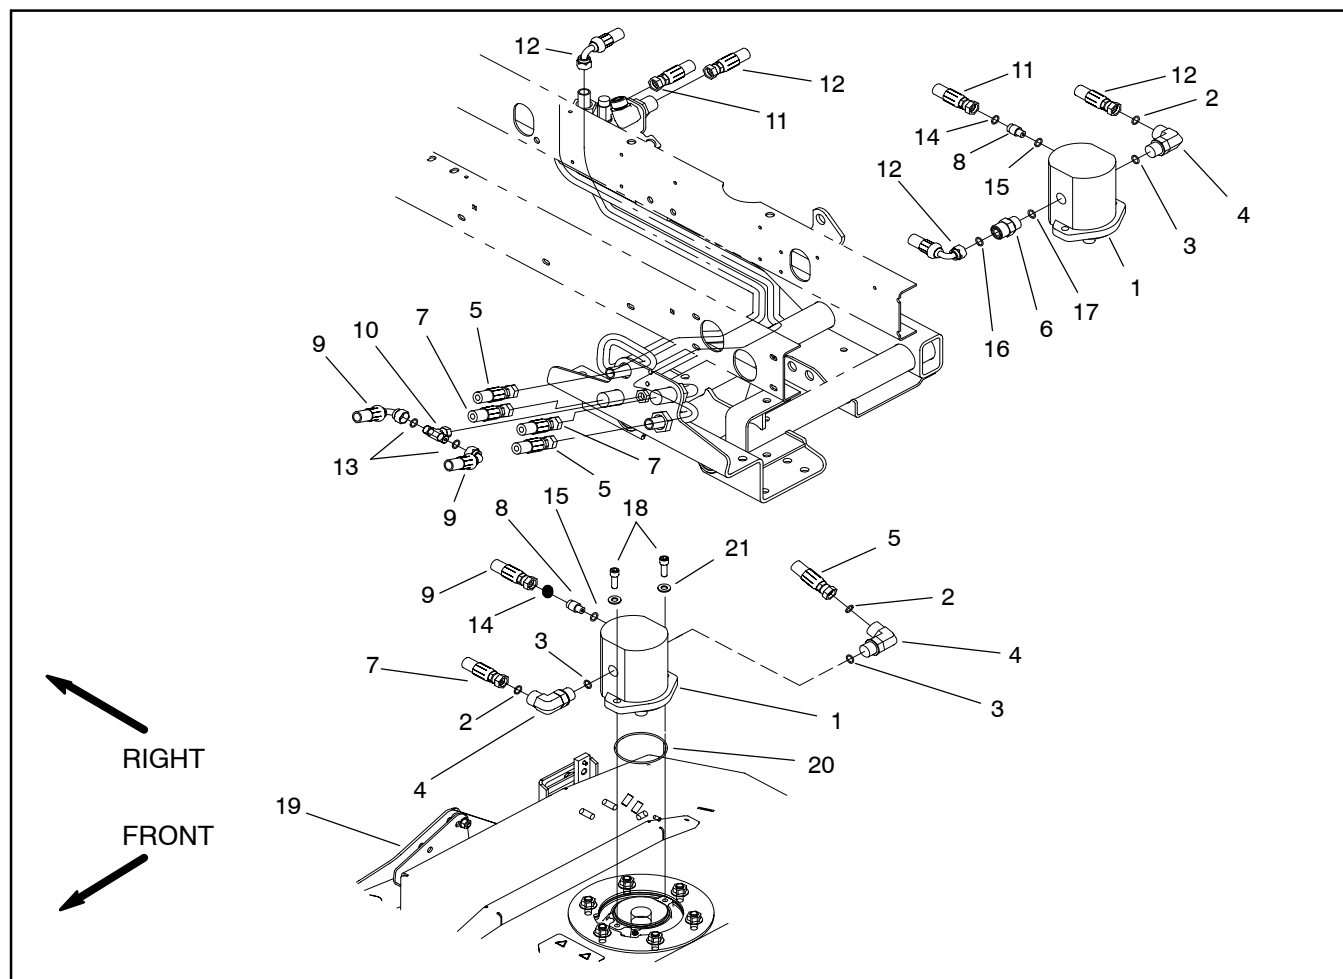

Figure 38
Removal (Fig. 38)
3. Remove hydraulic hoses from motor using Figure 38 as a guide.
Installation (Fig. 38)
2. Position o-ring to top of spindle housing. Install hydraulic motor to the cutting unit with two (2) socket head screws and flat washers.
3. Install hydraulic hoses to motor using Figure 38 as a guide.